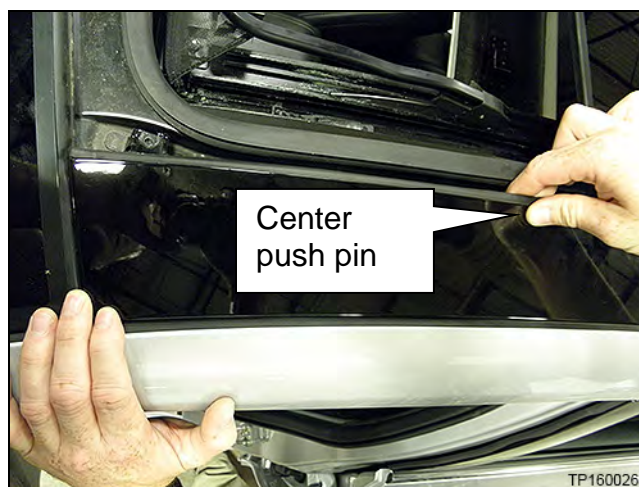

Figure 105
32. Starting from the front of the vehicle and moving rearward, attach each push pin to the roof (Figure 105).